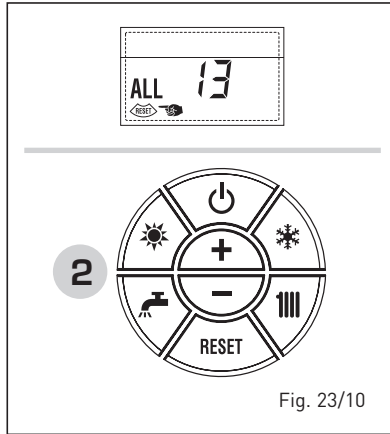

Fig. 23/10
- ANOMALIA SONDA FUMOS “ALL 14” (fig. 23/11)